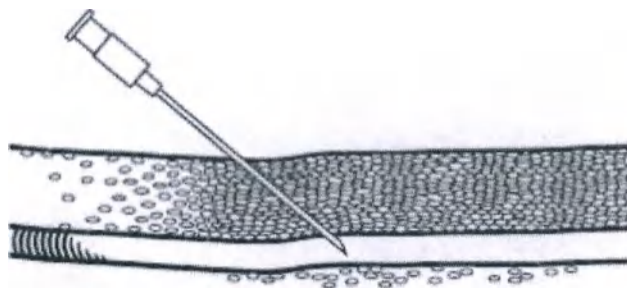

Fig. 1
1. After prepping the access site, introduce a thinwall percutaneous entry needle into the vessel. **NOTE:** The use of ultrasound is helpful to determine suitability for vessel access and patency. The EchoTip® marking on the needle is used to locate the tip of the needle during access into the vessel. (Fig. 1)